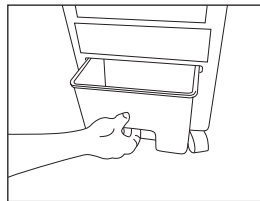

Fig 5
2. Pull out the water tank.(as shown in fig.5)